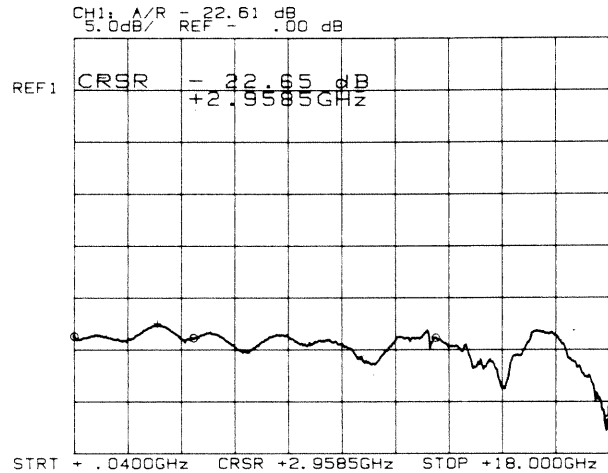

Figure 4-7. Reading Cursor Value
13. Using **MAIN MENU** soft keys, press **[CURSER]**. Use the knob to set the curser to the highest trace value (lowest return loss value) between **M1** and **M2** (.04 to 4 GHz), and read the curser value from the CRT (see Figure 4-7). Do the same thing between **M2** and **M3** (4 to 12 GHz), and between **M3** and **M4** (12 to 18 GHz). Note these values on the test record card.